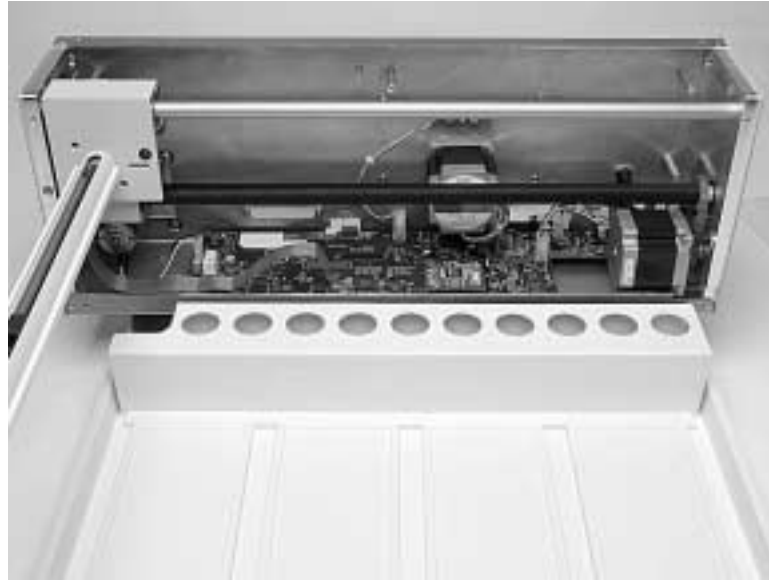

Figure 3-16. View of ASX-520 with inner shield removed.
1. The autosampler (Figure 3-16) is now ready for the pump speed to be changed.